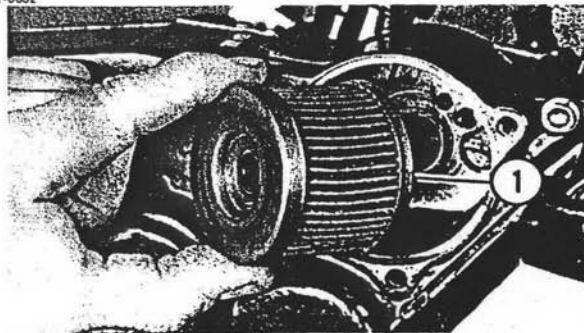

Figure 3-5. Oil Filter Element
7. See Figure 3-5. Remove and discard filter element (1).
2. See Figure 3-5. Install new filter element (1).